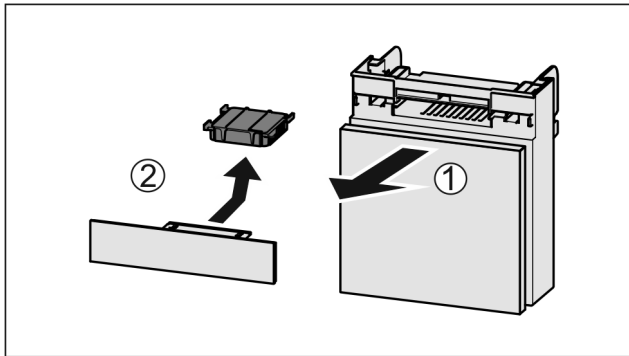

Fig. 59
- ▶ Pull out the compartment Fig. 59 (1).
- ▶ Remove the carbon filter Fig. 59 (2).